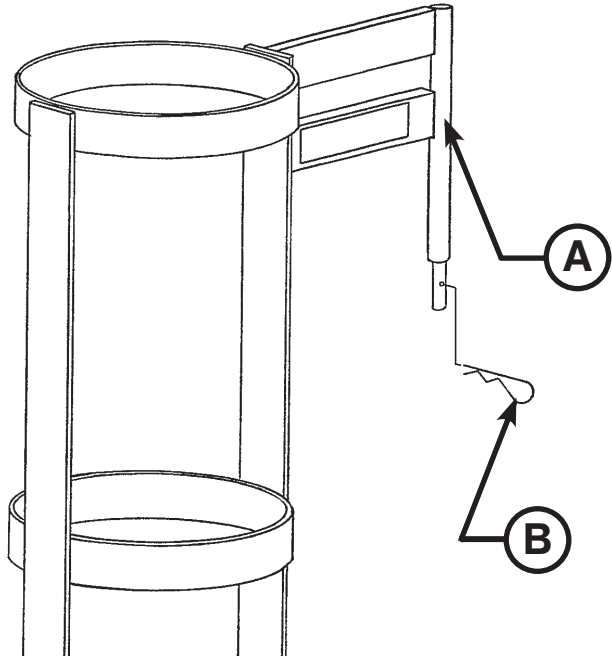

Figure 24.1: Upright Oxygen Bottle Holder
To install the upright oxygen bottle holder, insert the support bar (A) into the I.V. socket at any of the four litter corners. Insert the cotter pin (B) through the hole in the support bar to hold the bottle holder in place as shown in Figure 24.1.